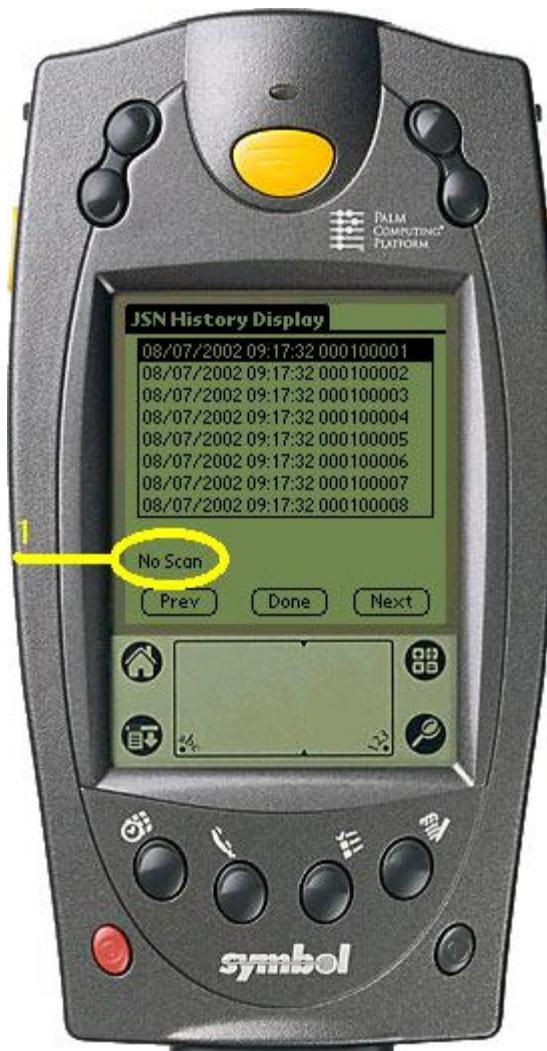

FIGURE 21. JSON HISTORY DISPLAY
The JSON History Display (see figure 21) shows the history records. In the history window you will see the Date, Time, and the JSON. When a record is highlighted, you will see what the status of that scan was (see item 1, figure 21). For example, you might see Scan Error, JSON mismatch, No Scan, Part Number Match, or JSON Match. See Counter Error Explanations or Counter Errors for more detail on the status of the scans.